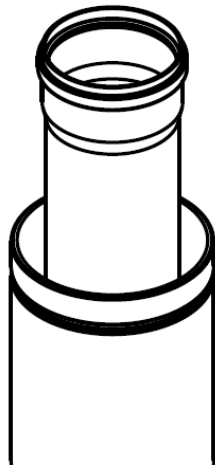

Figure 26
1. Measure distance needed from top of B-vent (removing & discarding the B-vent rain cap) to the beginning of vertical B-vent in appliance room and then add additional length needed to make transition to rigid pipe or fitting. It is suggested to remove any B-vent sections that are not passing thru the floor above. Add, 6" (152mm) minimum needed for termination above the B-vent (Fig 26). Remember, the flex (male or female seam) can only be cut in 20" (500mm) increments. Reference step 1 in 'Flexible In Masonry' section.